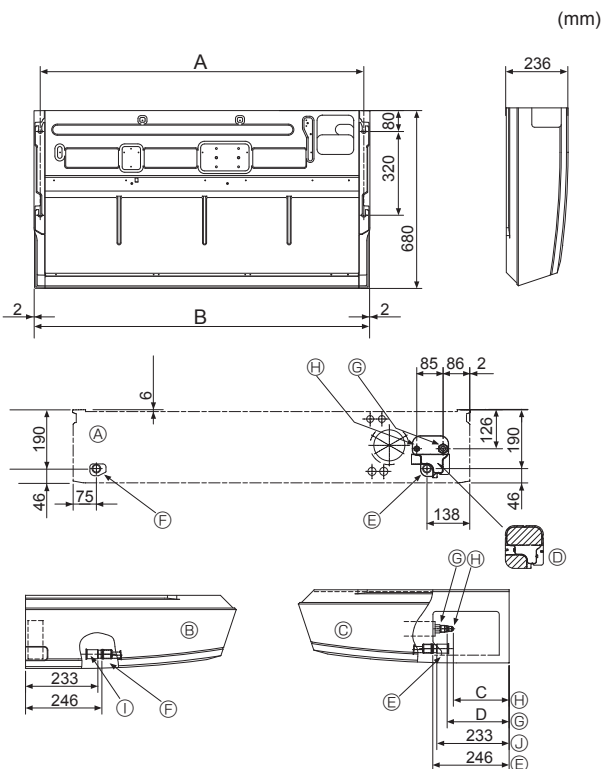

Fig. 3-2
①	Washer	4 pcs
②	Pipe cover	1 pc Large size (For gas tubing)
③	Pipe cover	1 pc Small size (For liquid tubing)
④	Band	4 pcs
⑤	Joint socket	1 pc Marked with "UNIT"
⑥	Socket cover	1 pc
⑦	Drain tubing cover	1 pc
⑧	Flare nut	1 pc ø6.35 (RP60 only)
3.2. Preparation for installation (Fig. 3-2)